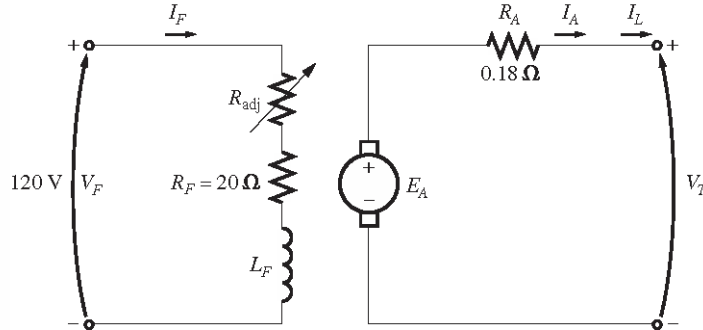

FIGURE P8-8
- 8-22.** The magnetization curve for a separately excited dc generator is shown in Figure P8-7. The generator is rated at 6 kW, 120 V, 50 A, and 1800 r/min and is shown in Figure P8-8. Its field circuit is rated at 5A. The following data are known about the machine: